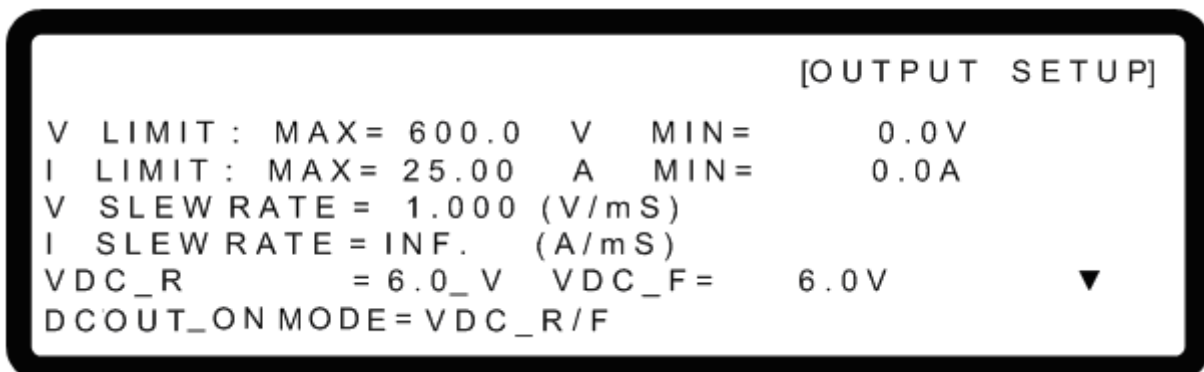

Figure 3-25
- Method 1: Use “”, “”, “”, “” keys to move the cursor to the column to be set as Figure 3-25 shows.